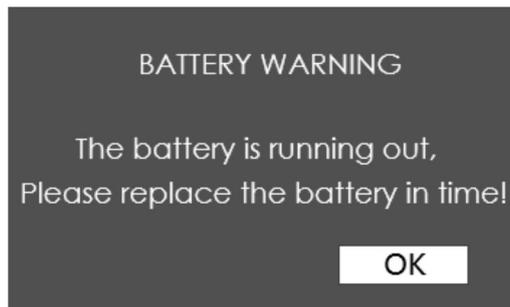

Figure 20 Battery Warning
- BAT ONLY: only display the battery indicator, and the illustrations are different according to the battery level as shown in the table below. When the battery capacity is running out, it will pop up a warning as shown in Figure 20, please replace the battery in time, and click OK to close this prompt. And it will display an AC indicator when powered by AC power input.